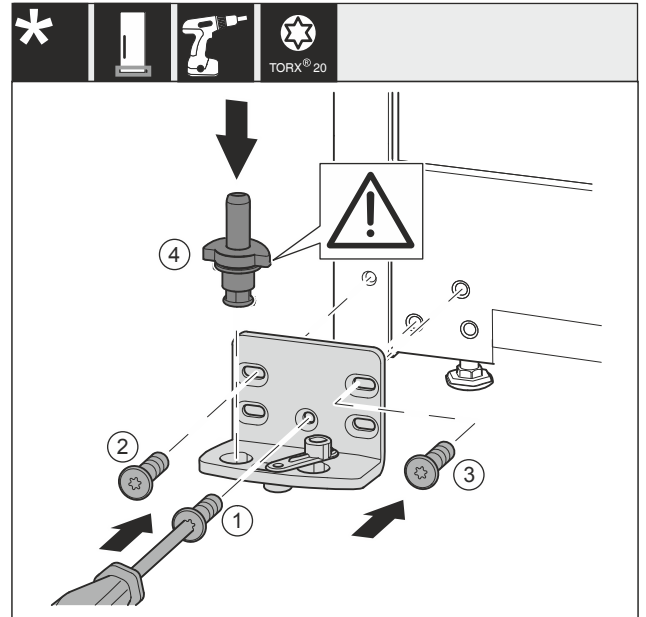

Fig. 38 *
- ▶ Place the swap bearing block on the other side and use a screwdriver to screw it on. Start with the Fig. 38 (1) bottom middle.*
- ▶ Tighten screw Fig. 38 (2) and Fig. 38 (3)*
- ▶ Insert the bearing bolt Fig. 38 (4) completely. Ensure that the latching cam is pointing towards the rear.*